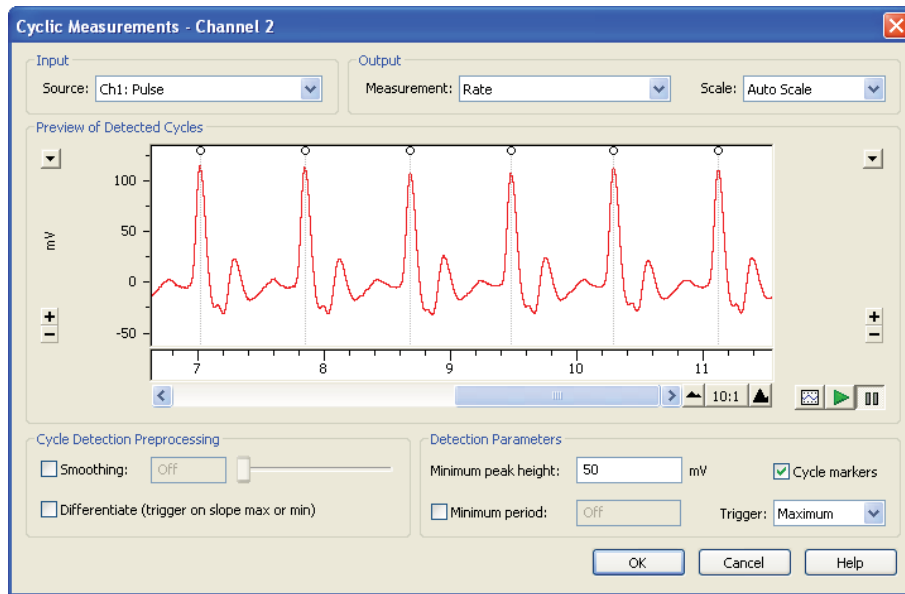

Figure 4: Cyclic Measurements dialog showing a pulse wave in the signal display area
10. Setting a Minimum period prevents two peaks from both being recognized within the same time period (the second peak will be ignored). Cycle markers are always shown for detected peaks in the signal display area (Figure 4), but are only shown in the Chart View if the Cycle markers checkbox is selected.